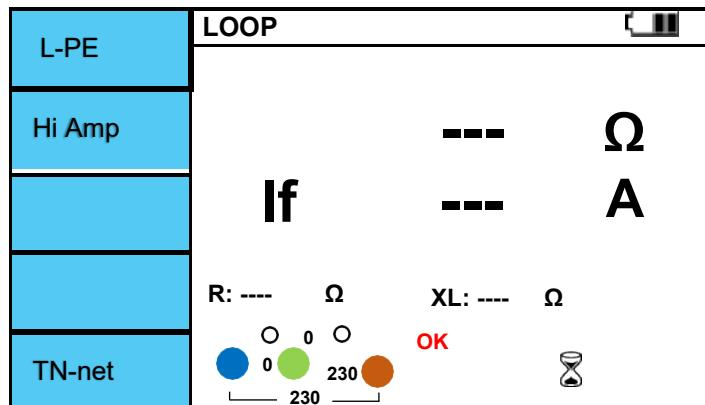

Figure 6.5.5 Loop / Hi Amp screen.
- IV. If there is no problem with the test lead connection, the terminal status is displayed as shown in Figure 6.5.5 "OK" is displayed in the right window.